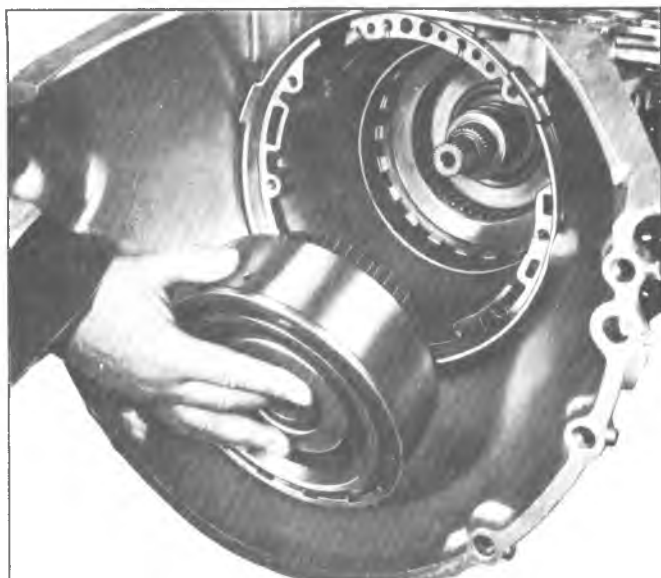

Fig. 136T--Installing Direct Clutch Assembly
17. With converter end of transmission up, carefully install direct clutch and intermediate roller assembly. It will be necessary to shake and slightly twist housing to allow roller outer race to index with composition plates. Housing hub will bottom on sun gear shaft (fig. 136T).